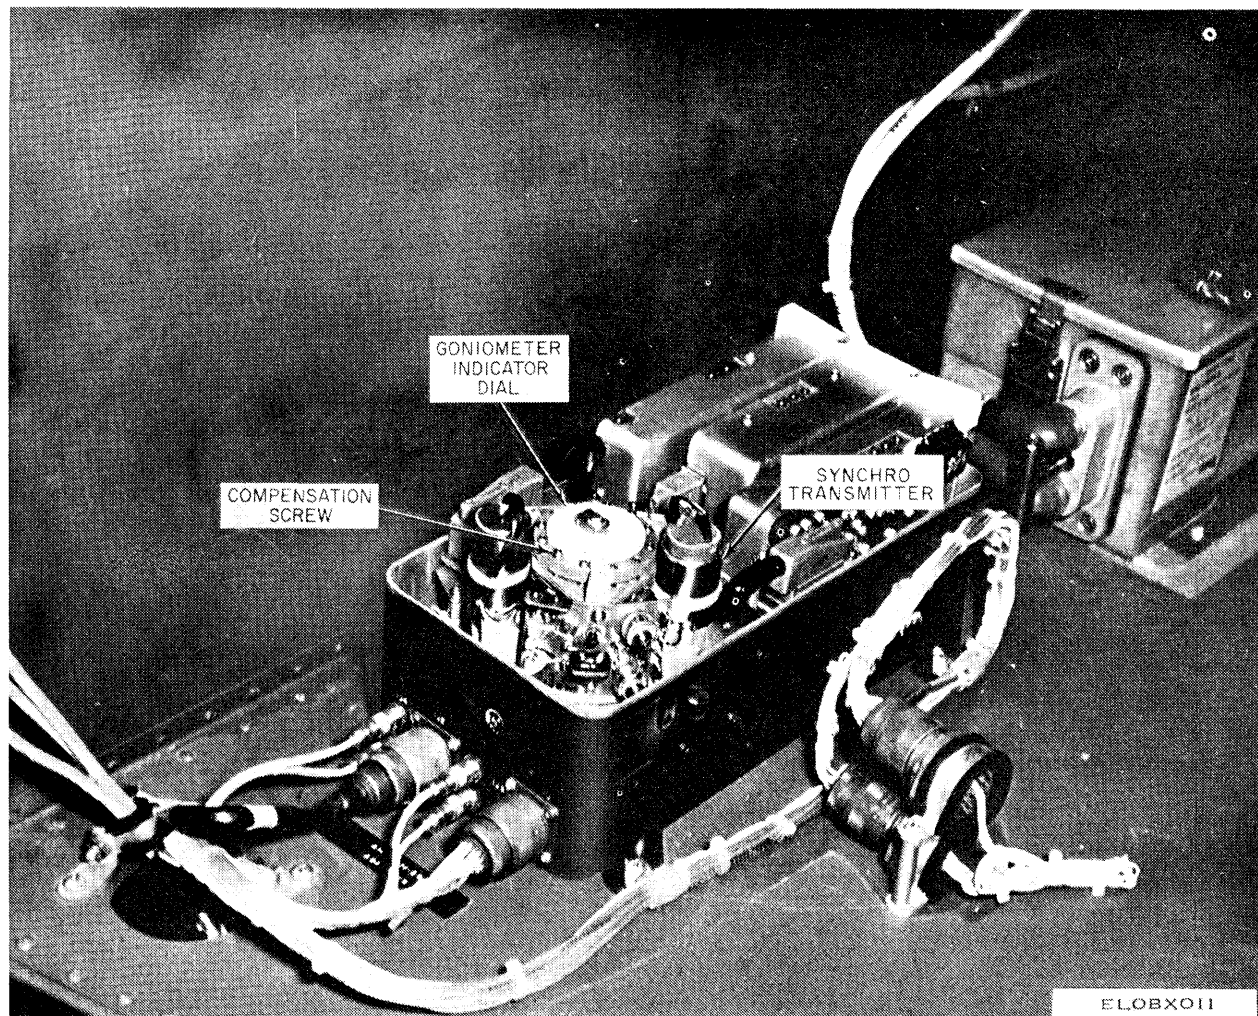

Figure 3-16. Adf receiver, cover removed.
g. Position the goniometer so 45 degrees is under the hairline and observe the ID-1 351 /A indicator. The ADF needle should indicate 66 or 67. If so continue with step *h* below. If it does *not*, loosen the two Phillips-head screws at the base of the synchro-transmitter (fig. 3-16) and rotate the body of the synchro-transmitter until the ADF needle on the ID-1351/A indicates 66 degrees. Tighten the two Phillips-head screws and continue with *h* below.